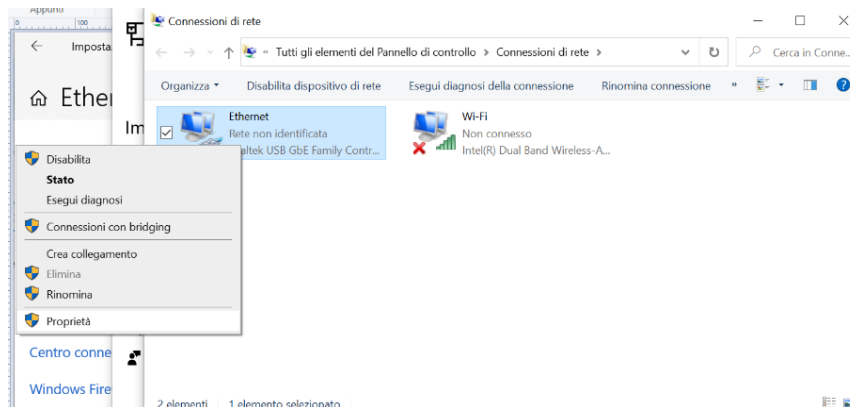

Fig. 12
5. Click on "Edit tab options". A tab with all the network resources will appear (Fig.12)